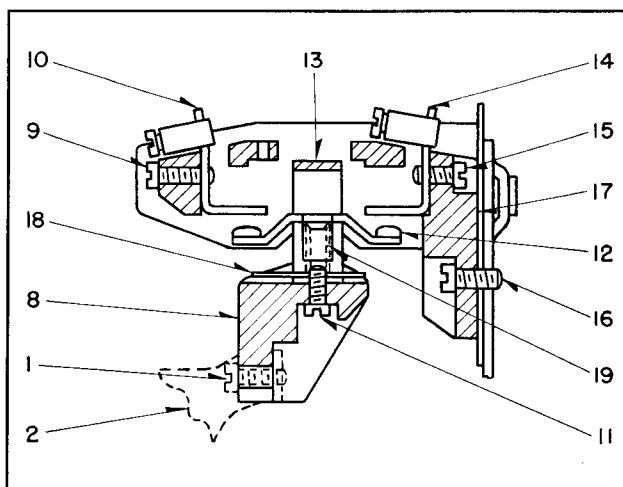
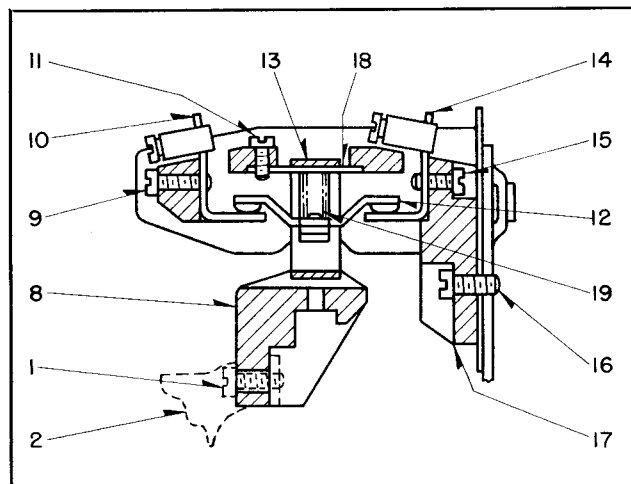

FIG. 2. Typical Normally Open Contact in De-Energized Position.
FIG. 3. Typical Normally Closed Contact in De-Energized Position.
Changing Contacts From N.O. To N.C. (Refer to Figs. 2 and 3) — To change N.O. contact, Fig. 2, to N.C. position per Fig. 3, first remove crossbar mounting screws (1) and withdraw crossbar (8). Second, remove front stationary contact mounting screw (9) and front stationary contact (10). Third, remove contact saddle mounting screw (11); invert the complete moving contact assembly and secure it in place in the molded contact base per Fig. 3 using the same screw (11) as before. Replace the front stationary contact (10) and operate the contact manually a few times to make sure it is free. Replace the crossbar assembly (8) and screws (1).
Normally Open Contacts. (See Fig. 2) Inspection of N.O. contacts is accomplished by removing the two crossbar mounting screws (1), whereupon the crossbar (8), complete with the moving contacts, may be removed and all contacts are accessible.
Normally Closed Contacts. (See Fig. 3) Inspection of N.C. contacts is accomplished by first removing the crossbar mounting screws (1) and the molded crossbar (8) complete with any moving contacts that may be attached thereto. Next, the front stationary contact (10) and its mounting screw (9) are removed and screw (11) is removed, allowing the complete moving contact assembly to be taken out for inspection.